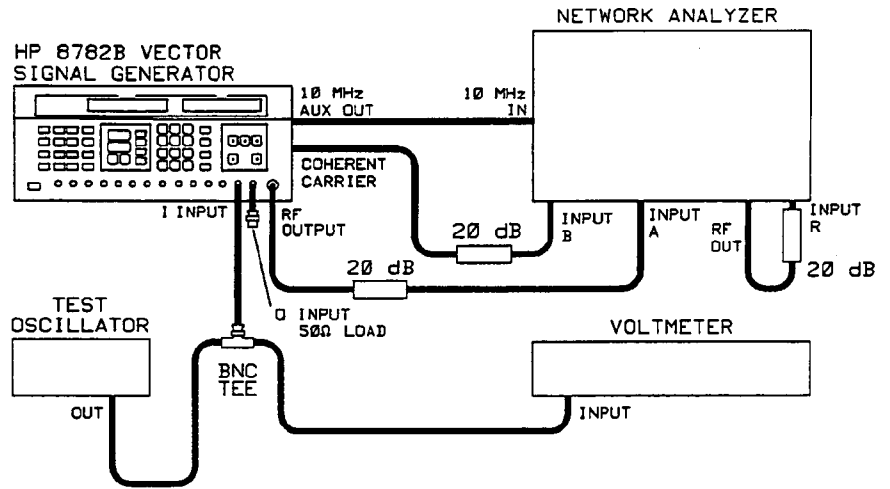

Figure 5-33. Vector dc Accuracy Test Setup
1. Connect the equipment as shown in Figure 5-33. The Generator 10 MHz auxiliary output must be connected to the network analyzer to provide a common timebase for the measurements.